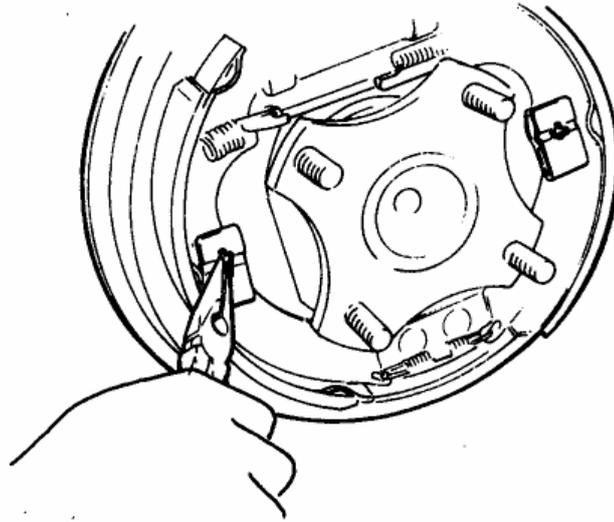

FIG 13-4
(7) Remove brake shoe spring by rotating brake shoe pin. (FIG.13-4)